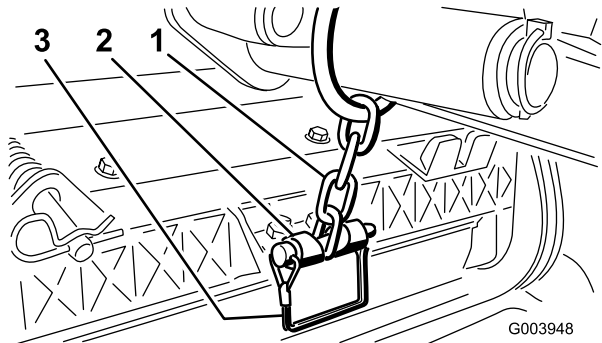

Figure 9
12. Secure the lift arm chain to the chain bracket with the snapper pin (Figure 9). Use the number of chain links described in the cutting unit Operator's Manual.